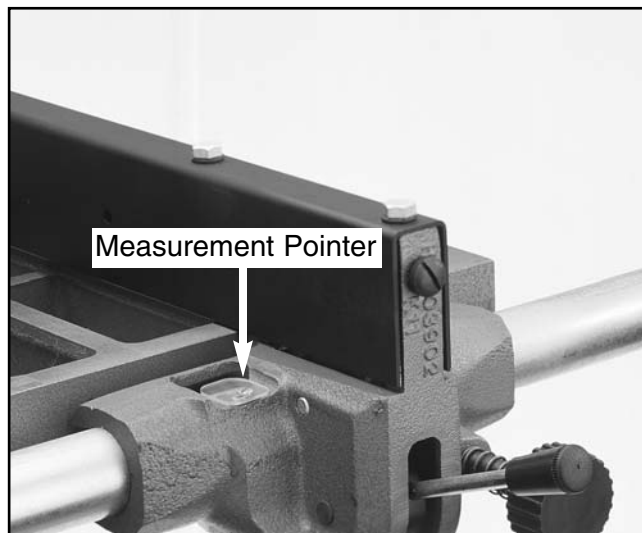

Figure 28. Adjust measurement pointer.
12. Once the fence is adjusted, check the measurement pointer shown in **Figure 28** and adjust if necessary.